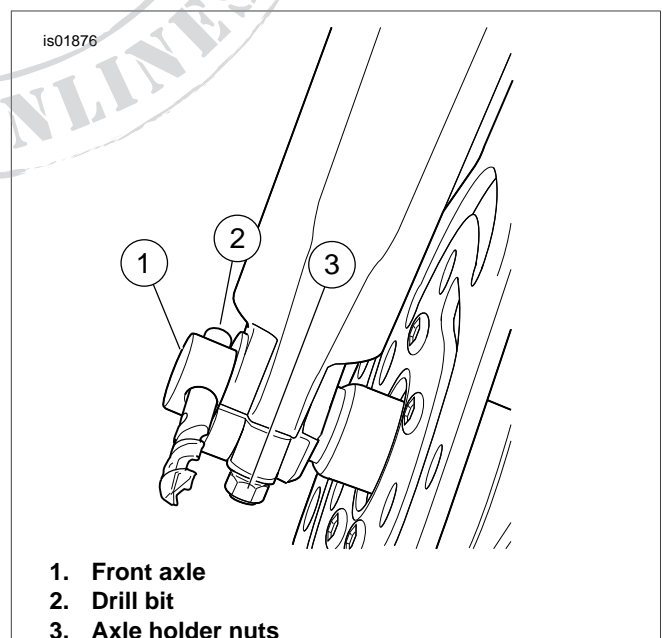

Figure 2. Front Wheel Mounting (Right Side)
7. See Figure 2. Insert 7/16 inch drill bit into hole in axle.